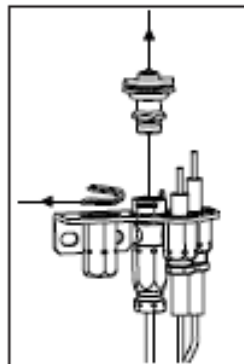

fig. 1
3. The pilot hood is held in place by spring. First remove the spring, then remove the hood by pulling it up from the pilot bracket (fig. 1).